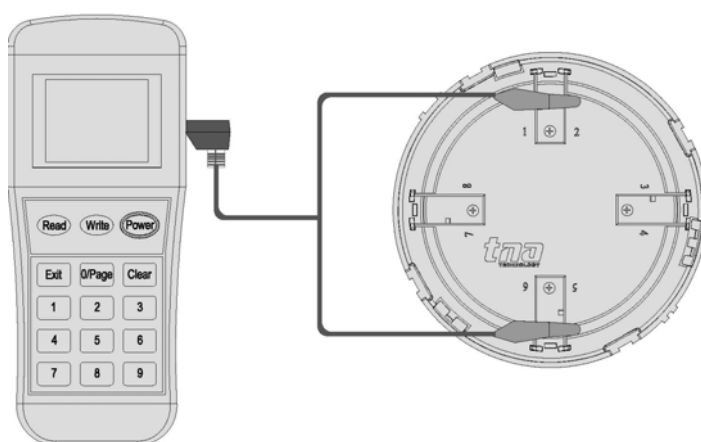

Figure 3
1. Connect the programming cable to 1 and 6 terminals (Figure 3). Press **"Power"** to switch on the unit.